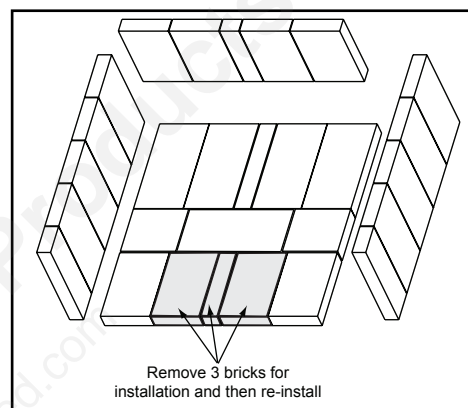

Figure 16.1
2. Remove the 3 bricks in the front most part of the firebox (**Figure 16.1**).
2. Remove the 3 bricks in the front most part of the firebox (Figure 16.1 on page 16).